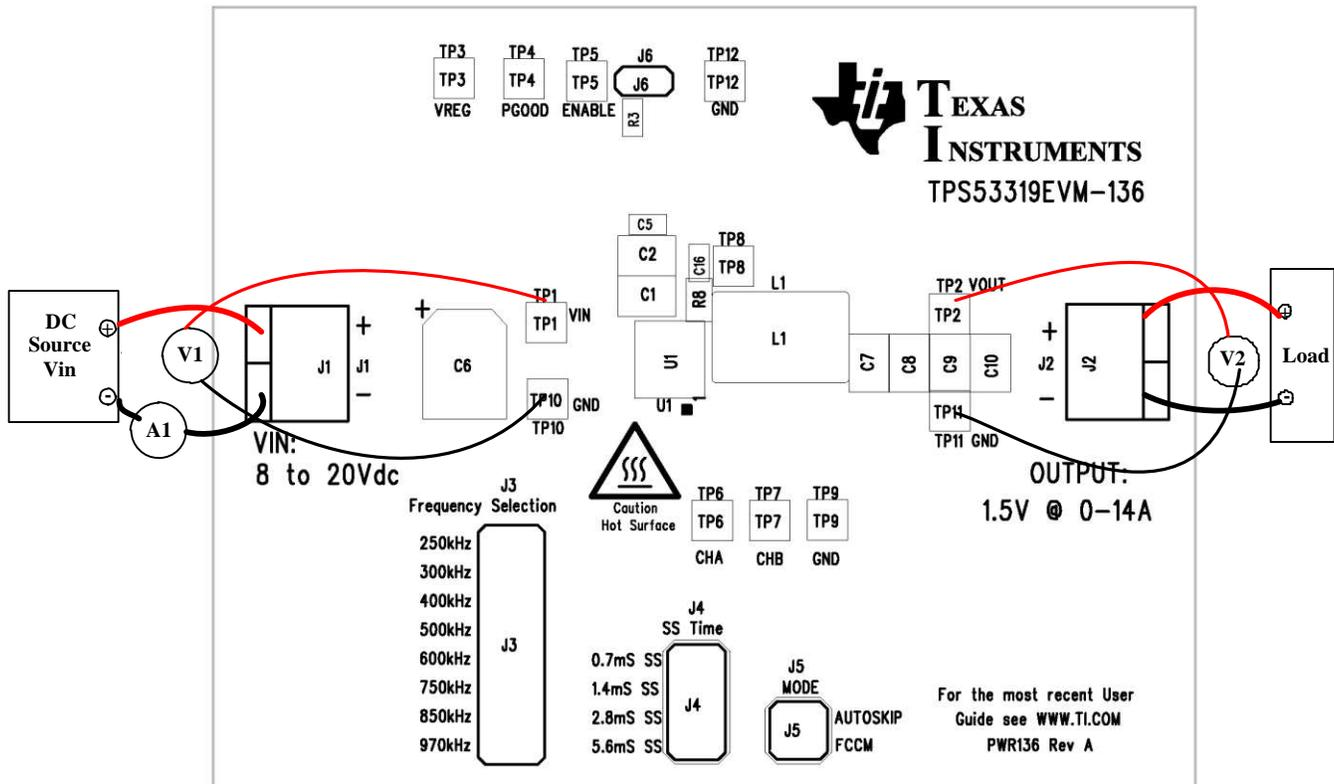

Figure 3. TPS53319EVM-136 Recommended Test Set Up
The input voltage source V_{in} should be a 0-20V variable DC source capable of supplying 10A_{dc}. Connect V_{in} to J1 as shown in Figure 3.
Figure 3 is the recommended test set up to evaluate the TPS53319EVM-136. Working at an ESD workstation, make sure that any wrist straps, bootstraps or mats are connected referencing the user to earth ground before power is applied to the EVM.
1. Prior to connecting the DC input source V_{in} , it is advisable to limit the source current from V_{in} to 10A maximum. Make sure V_{in} is initially set to 0V and connected as shown in Figure 3.
1. Set up EVM as described in Section 4 and Figure 3.